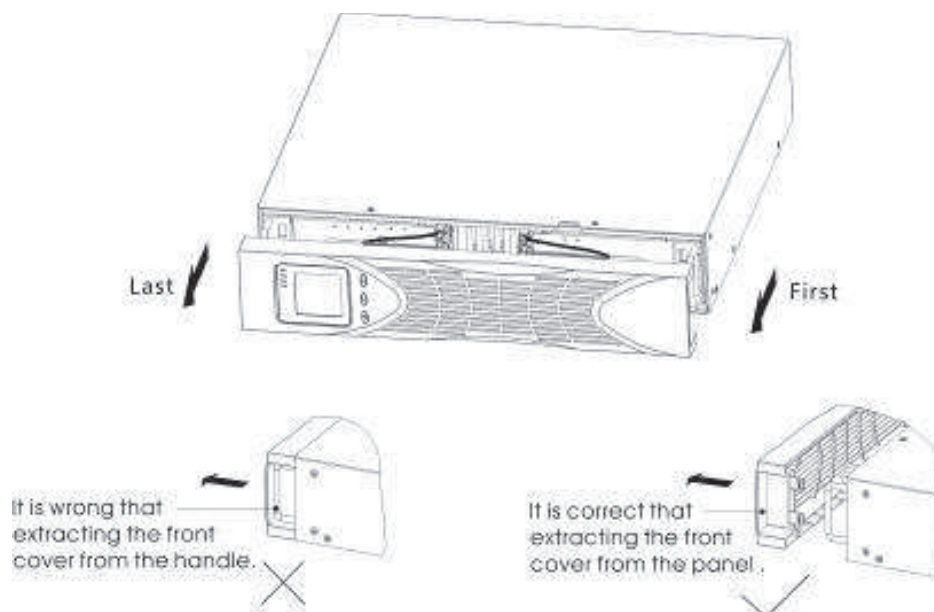

Figure 8 Removing the EBP Front Cover
(1) To install the optional EBP(s) for a UPS
a) Remove the front cover of each EBP and UPS (see Figure 8).